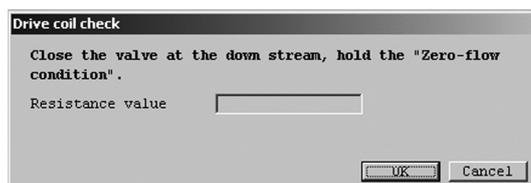

Fig.96
- ① Click the "Diag/Service (T)" menu, select "Self Diag" from the "Test/Status" drop-down list, and then click "Drive coil check" under that.
- ② The following window will be displayed (Fig. 96). This will check the drive resistance. Click "OK" after completely stopping the fluid.